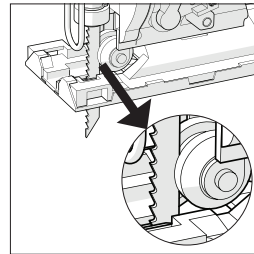

Fig 2
- Check to ensure that the back of the blade has engaged into the groove in the guide roller. (Fig. 2)